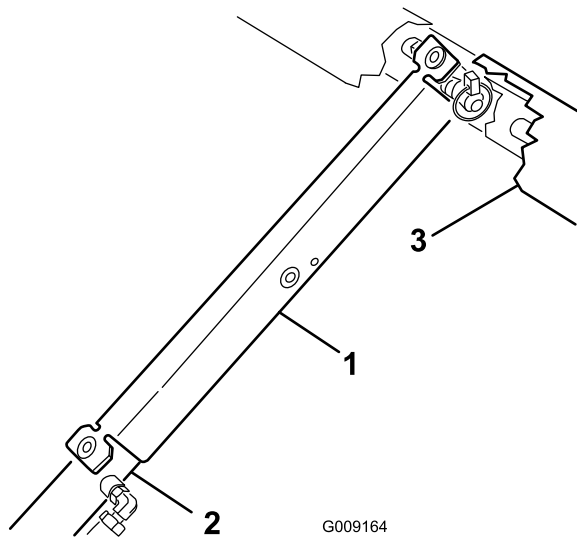

Figure 29
3. Push the bed support onto the cylinder rod, making sure the support end tabs rest on the end of cylinder barrel and on the cylinder rod end (Figure 29).